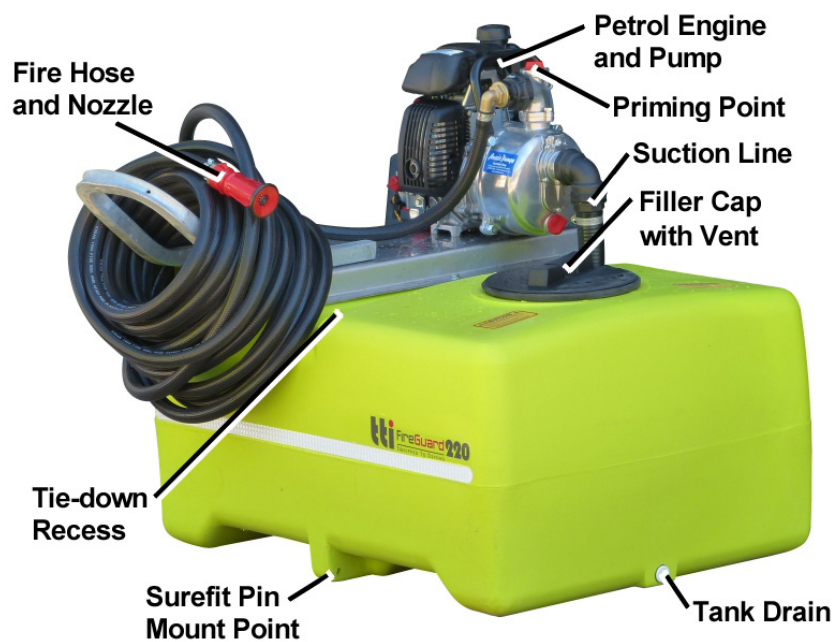
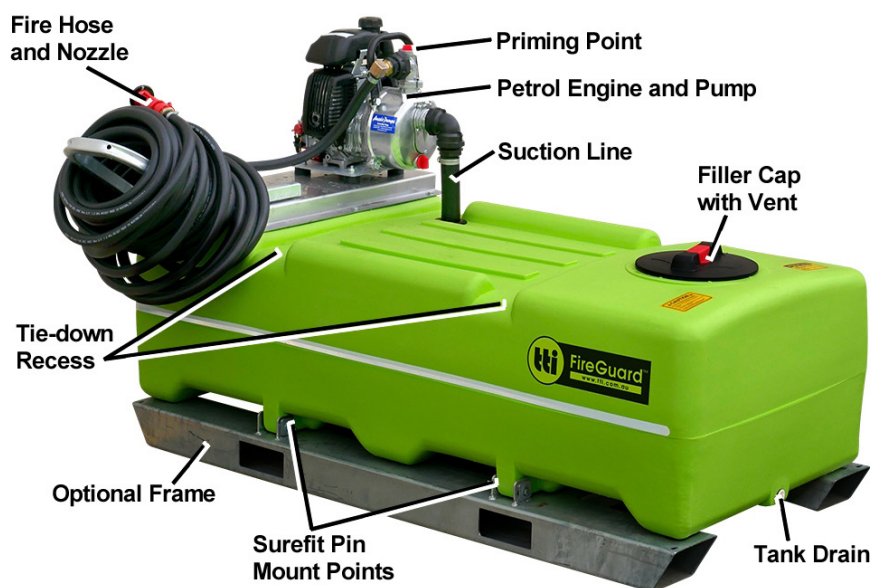
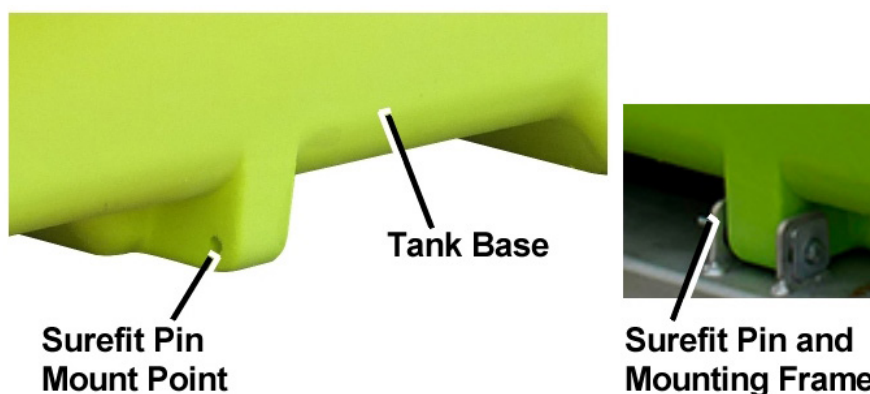

Figure 1 – Component Identification (220L FireGuard)
Figure 2 – Component Identification (400L FireGuard with Optional Frame shown)
Figure 3 – Surefit Pin Mount System
The TTI FireGuard is designed to carry and distribute water using a self-contained pump and firefighting hose system. The FireGuard is configured in two different capacities, refer to Figure 1 and Figure 2, both designed to fit on utility trays or trailers:
6. Position your FireGuard onto the vehicle and mount securely to the tray. If using tie-down straps, they must be rated to at least the total mass of the unit when filled with water. There is one tie-down recess across the 220L FireGuard tank (refer to Figure 1), with two recesses for the 400L FireGuard (Figure 2). Alternatively, the tank incorporates the Surefit pin mount holes on its base, to enable a bolt and bracket system to secure the unit to the vehicle or optional frame. The 400L unit has four Surefit mount points, the 22L unit has two, refer to Figure 3.